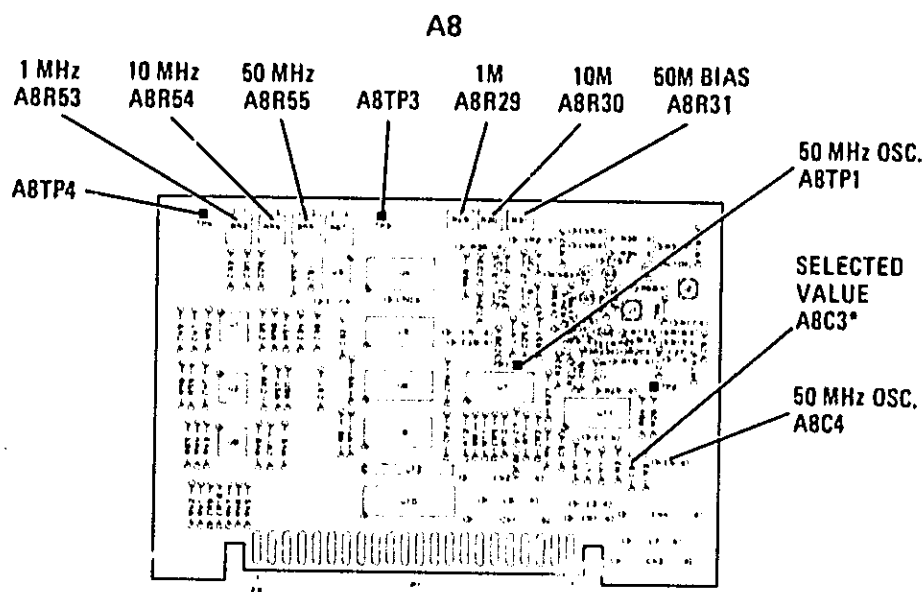
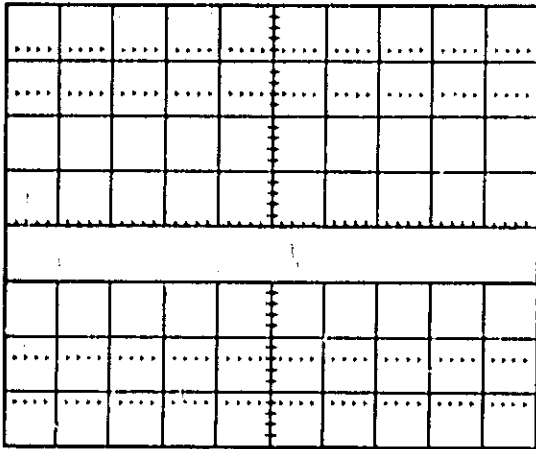

Figure 5-33. Marker Adjustments on A8
Figure 5-34. Marker Envelope
- Set 8350A START/STOP sweep for 10 MHz to 2.4 GHz. Select 83522A AMPTD MARKERS. Connect counter with 1:1 capacitive probe to A8TP1. Adjust A8C4 (Figure 5-33) for frequency counter indication of 50 MHz \pm 250 Hz. If A8C4 does not have the range required to adjust the 50 MHz crystal oscillator, select a new value for A8C3. (An increase in capacitance will decrease frequency.)
- Select 100 ms Sweep Time. Connect oscilloscope with 1:1 probe to A8TP3 (Figure 5-33). Set 8350A power to +13 dBm and select 1 MHz Markers. Adjust A8R29 (1M) for the flattest envelope height. (See Figure 5-34.) Select 10 MHz Markers. Adjust A8R30 (10M) for the flattest envelope height (Figure 5-33). Select 50 MHz markers. Adjust A8R31 (50M) for the flattest envelope height. (Optimum setting for these adjustments will be ones that provide the most uniform birdie height across the band with the adjustments nearest the center of their range.) Especially note birdie height at the high-frequency end and set the adjustment just before the marker amplitude drops off.
- Connect oscilloscope to A8TP4 (Figure 5-33). Set RF POWER to 0 dBm. Adjust IF gain potentiometers A8R53 (1 MHz), A8R54 (10 MHz), and A8R55 (50 MHz) for each marker frequency to an average envelope height of 1.0 V p-p.